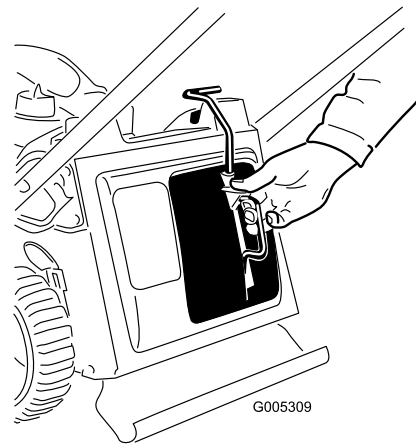
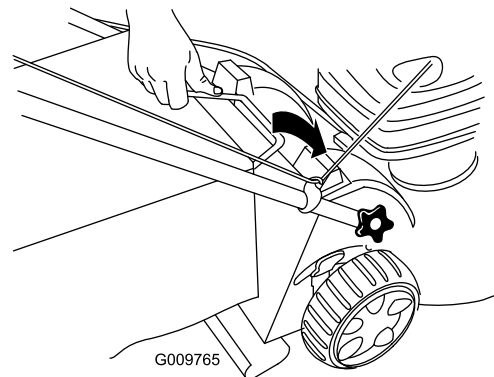

Figure 15
Figure 16
1. Install the mulch plug (Figure 15) or the grass bag (Figure 16) on the mower.